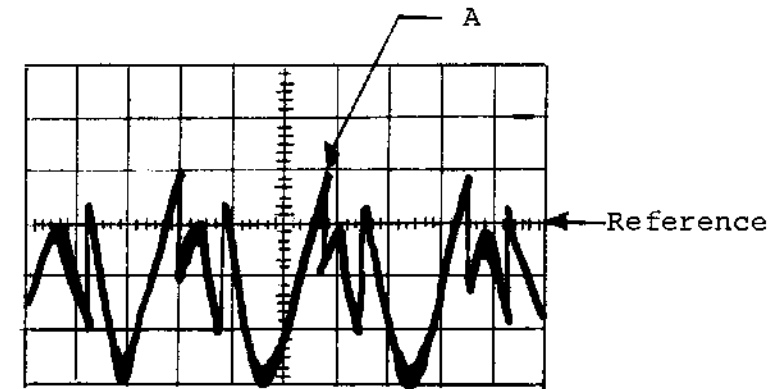

Figure 5: Slice Measurement
- 2 Decrease the time base and read the amplitude of point A (see Figure 5). This value is the slice measurement. Set the slice by adjusting the potentiometer on the B section of the G085 Module.